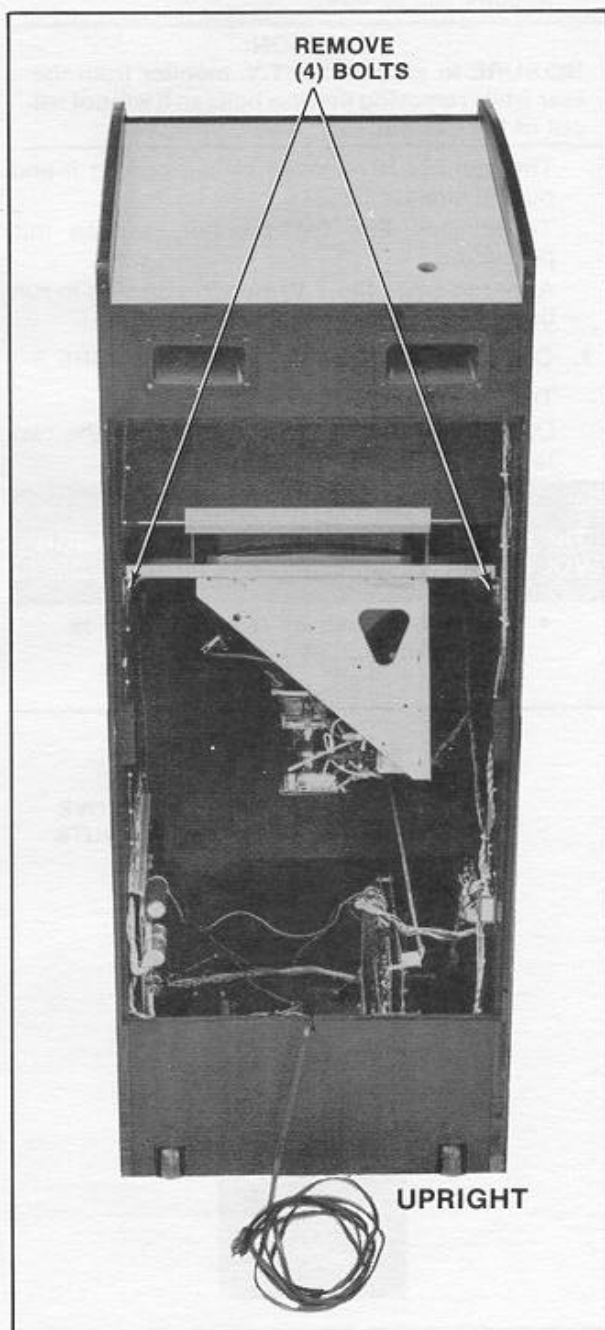

Figure 6. Removing monitor from Upright game
1. UPRIGHT MODEL. SEE FIGURE 6